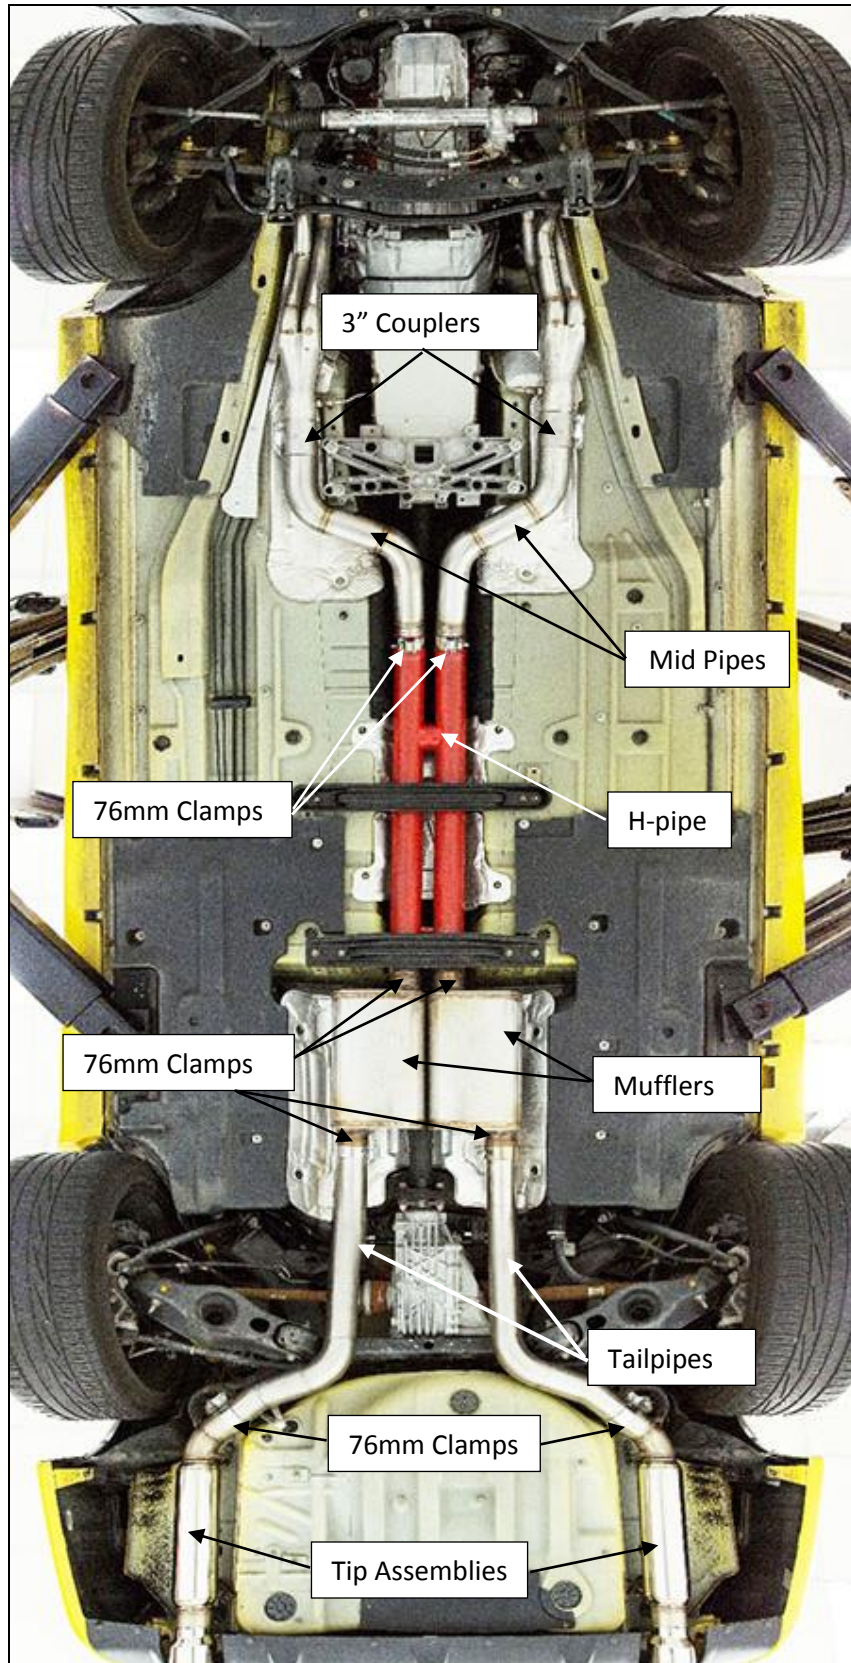

Figure 3
10. Install the **Right side tailpipe** into the muffler or muffler delete pipe. Spray the isolator at the differential with WD-40® or equivalent and rotate the tailpipe hanger into the isolator. Tighten the clamp to allow for adjustment (**Figure 3**).
11. Install the **Left side tailpipe** into the muffler or muffler delete pipe. Spray the isolator at the differential with WD-40® or equivalent and rotate the tailpipe hanger into the isolator. Tighten the clamp to allow for adjustment (**Figure 3**).
12. Install a supplied 76mm band clamp over the outlet of each tailpipe (bolt to the outside and the nut facing down – **Figure 3**).
13. Install the right side tip assembly on to the tailpipe (**Figure 3**). Align the isolator assemblies and install the bolts.
14. Install the left side tip assembly on to the tailpipe (**Figure 3**). Align the isolator assemblies and install the bolts.